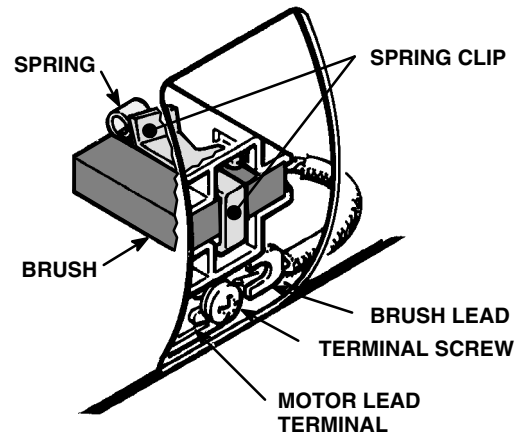

Fig 23-3
NOTE: Replace the brushes when they have worn to less than 1/2 in. Refer to STEP 1, Fig 23-3. Note that the brushes wear differently on each side of the motor, so check them both. Brush Repair Kit 220-853 is available.
3. *Loosen* the brush lead terminal screw. Pull the brush lead away, but leave the motor lead terminal in place. Remove and discard the brush and spring. Refer to Fig 23-3.